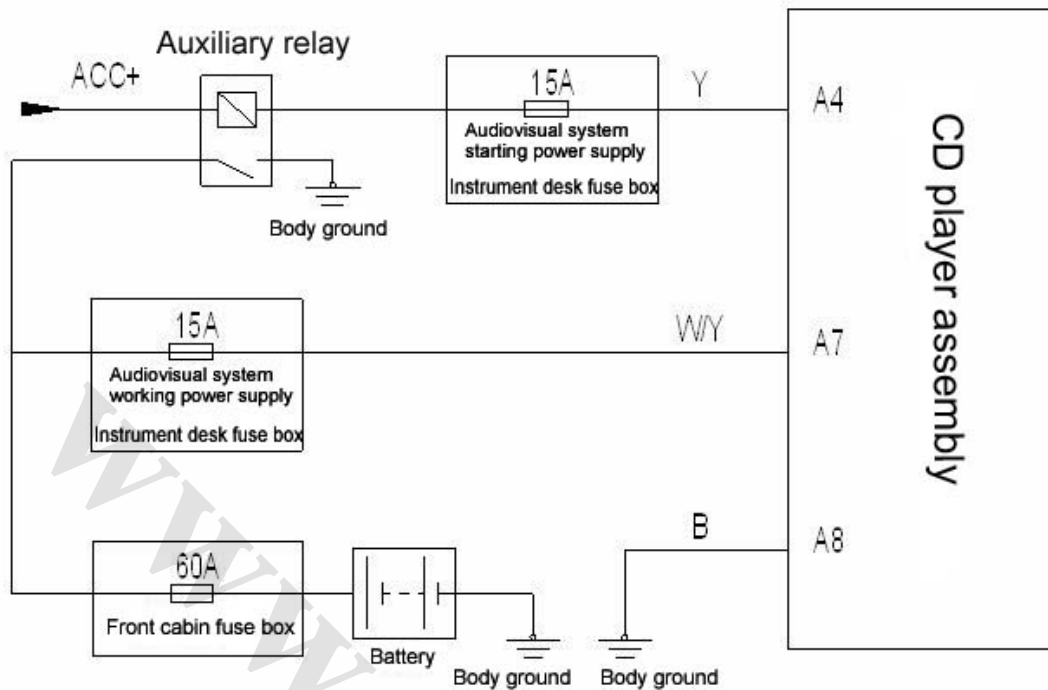

Fig. 4-108
According to the circuit diagram Fig. 4-108, ① check the environment of CAB, for possible features causing electrical short-circuit, and keep CAB dry and ventilative; ② Test the voltage between audio system assembly connector terminal A7 and vehicle body, the voltage shall be 10-14V. ③ Test the resistance between audio system assembly connector terminal A8 and vehicle body, the resistance shall be less than 1Ω. ④ Turn ignition switch to ACC, and test the voltage between audio system assembly connector terminal A4 and vehicle body, the voltage shall be 10~14V. If all above is normal, check and replace audio system assembly; if not, repair or replace wiring and connector.
Turn the light control gears of light combination switch assembly to lamplet or fog light, test voltage between audio system assembly connector terminal A5 and vehicle body according to the circuit diagram Fig. 4-108, the voltage shall be 10~14V. If the voltage is normal, check and replace CD player assembly; if not, repair and replace wiring and connector.
Check according to the circuit diagram Fig. 4-108, detailed steps as follows:
Check according to circuit diagram Fig. 4-108, detailed steps as follows: